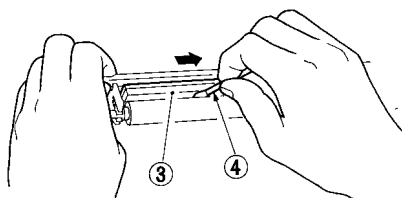

Figure 4-504
- 2) Place the primary corona assembly as shown in Figure 4-504, and clean the cleaning pad ③ using a cotton wad ④ or folded lint-free paper.